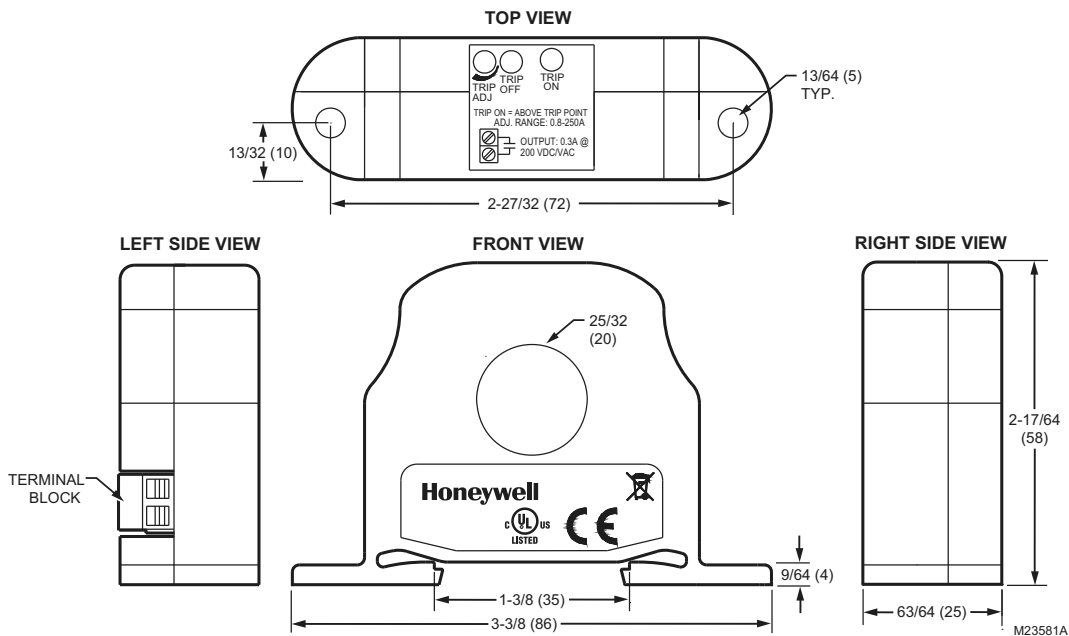

Fig. 1. CSS current sensor dimensions in inches (mm)
**Dimensions:** See Figures 1 and 2